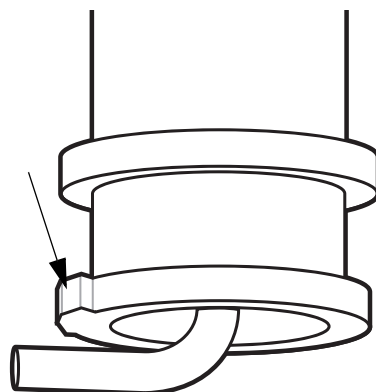

Figure 3-9 Rotation Limiting Tab
- ✓ **NOTE** There is a rotation limiting tab on the top and bottom surfaces of the pole extension (see Figure 3-9). These need to be fitted one side or the other of the mating projection in the rear cover. If not, there may be difficulty replacing the existing front cover.